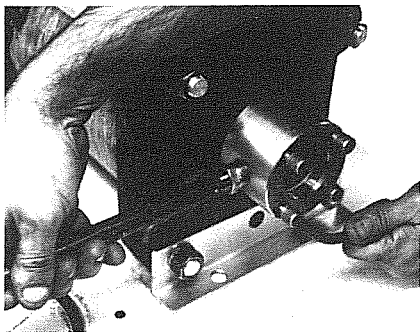

Figure 7-24, Installing bolts in hydraulic piston body. Note use of nipple in liquid outlet port to assist in aligning bolt holes.
7.4.6 Before bolting piston body to oil end plate, be sure to check position of liquid outlet port to pump assembly. Normal position of outlet port is to the side (9 o'clock) but, if pump installation requires, the port can be positioned to 12, 3 or 6 o'clock without interfering with the pump performance. Install with socket head screws (62) and lock washers (63). Coat bolt threads with petrolatum before installing. Torque tighten evenly four bolts in sequence of opposing positions (1, 3, 2 and 4). Remove the pipe or nipple from liquid outlet port. See Figure 7-24.